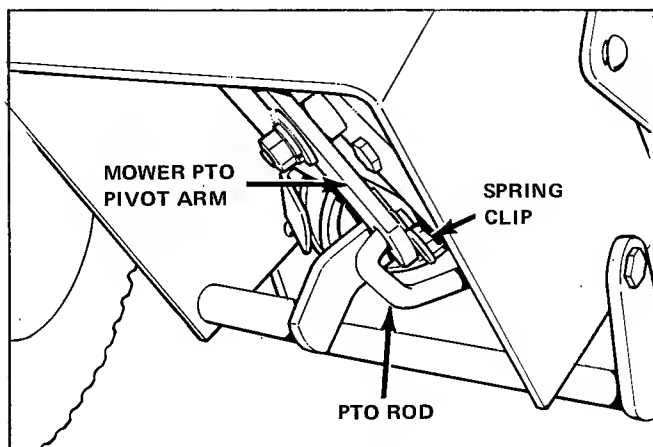

Figure 8. Attaching PTO Rod
9. Attach the front of the mower PTO rod to the mower pivot arm with a spring clip (see figure 8).